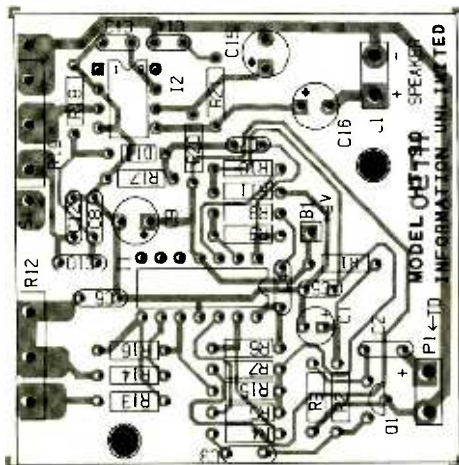

Fig. 2. Parts-placement diagram. You can build this circuit on perfboard, but you're much better off using a PC board.
**Construction.** You can build this circuit on perforated construction board, but you're much better off using a PC board. You can make one using the foil pattern provided here or buy one with the kit. Figure 2 shows the parts-placement diagram and Fig. 8 is the foil pattern. Note that the potentiometers supplied with the kit mount to the PC board using bits of scrap component leads so that the potentiometers stand vertically as shown in Fig. 3.